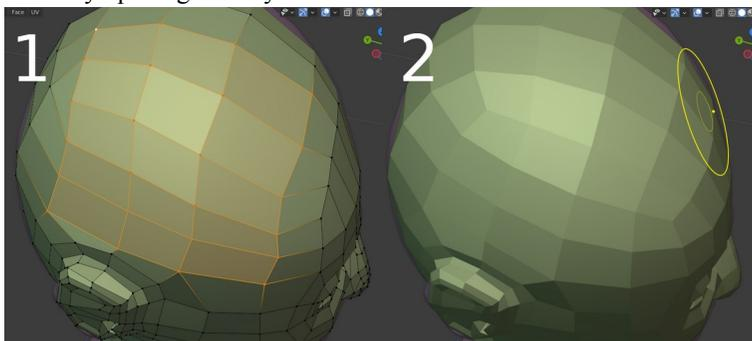

Figure 7-16 Using Sculpt Slide Relax
Sometimes you will end up with an area of quads that you can see are imperfectly laid out, for instance in Figure 7-16 stage 1 there are elongated rectangles and quads that are almost triangular. Rather than move each vertex individually, you can use a relax brush to quickly tidy up the geometry.
6. To relax the edge orientation, press **SHIFT** and hold LMB as you paint with the brush as shown in Figure 7-16 stage 2. You need to paint carefully and not go too near the ear or eye.